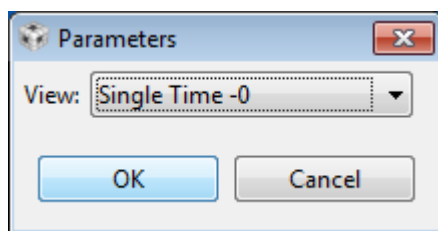

Figure 22: Breakpoint set to update a graph
3. In the breakpoint window select **Update View** as the action for this new breakpoint, in the pop-up that appears (figure 22) select **Single Time -0** Hit **Ok**